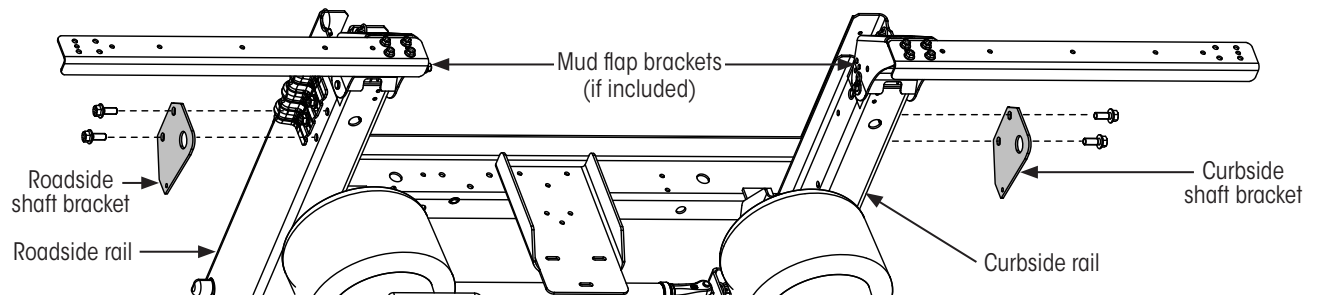

Figure 9: Slider shaft bracket installation
1. Install roadside and curbside shaft brackets (Figure 9) using 1/2-inch flange bolts provided with the kit. **Loosely install** bolts to allow brackets to move freely during the next step.